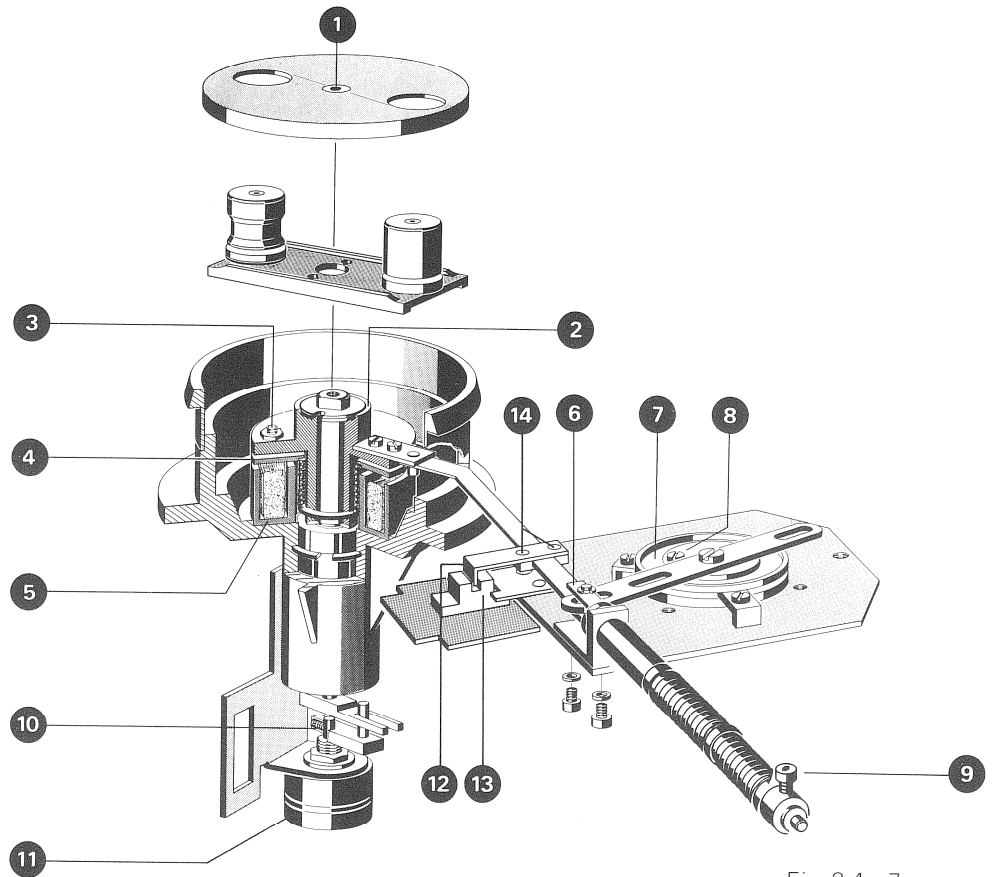

Fig. 2.4.-7
The microswitch must operate shortly before the solenoid bottoms. To adjust, loosen the two screws fixing the microswitch (8) (fig. 2.4.-4).
10. Press the PLAY key repeatedly and at the same time adjust the amount of pneumatic damping. Adjustment is made by carefully rotating the body of the dashpot (14), thus covering a larger or smaller area of the air vent.
### Mechanische Einstellungen der Bandzugwaagen Fig. 2.4.—7